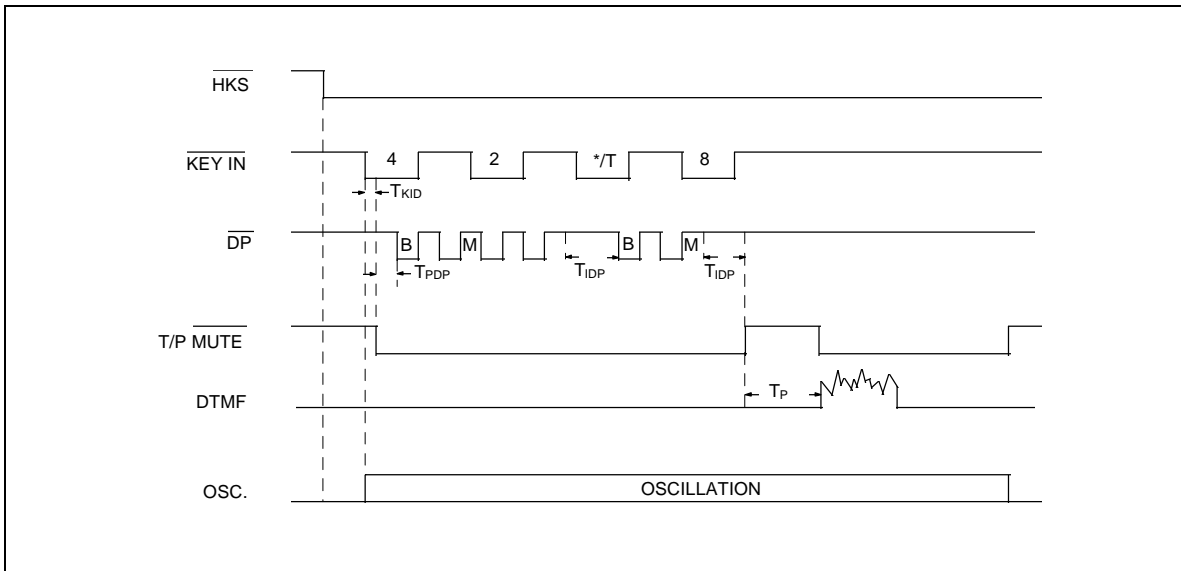

Figure 4. Pulse-to-tone Function Timing Diagram
4. The P→T function timing diagram is shown in Figure 4.